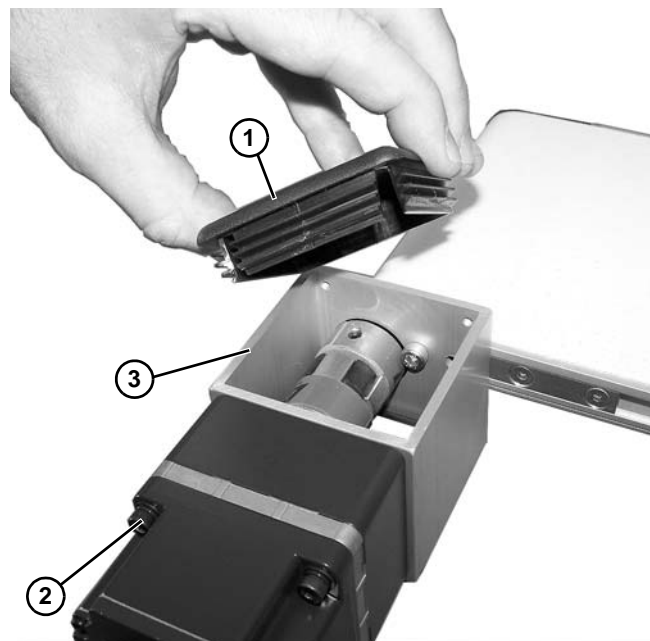

Figure 22
2. Remove top plastic cover (Figure 22, item 1).
3. Remove four (4) screws (Figure 22, item 2) holding gearmotor onto side mount bracket (Figure 22, item 3).